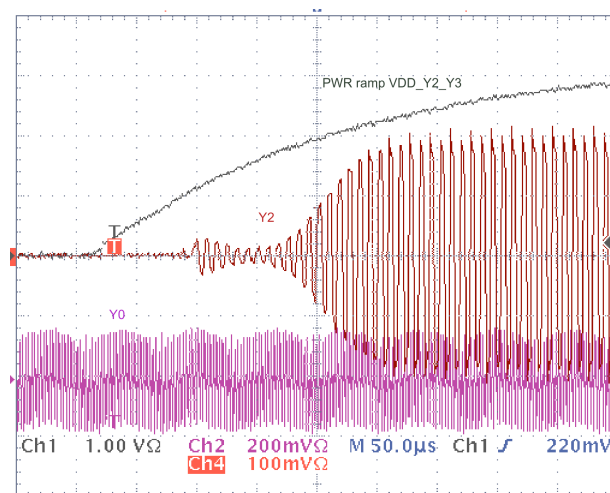

Figure 58. Sequencing the Output Turn-on Through Sequencing the Output Supplies
2. **Output Power supply domain control:** An even easier scheme might be to connect the clock output power supply VDD_Yx to the corresponding DSP input clock supply domain. In this case, the CDCM6208 output will remain disabled until the DSP rails ramps up as well. Figure 58 shows the turn-on behavior.